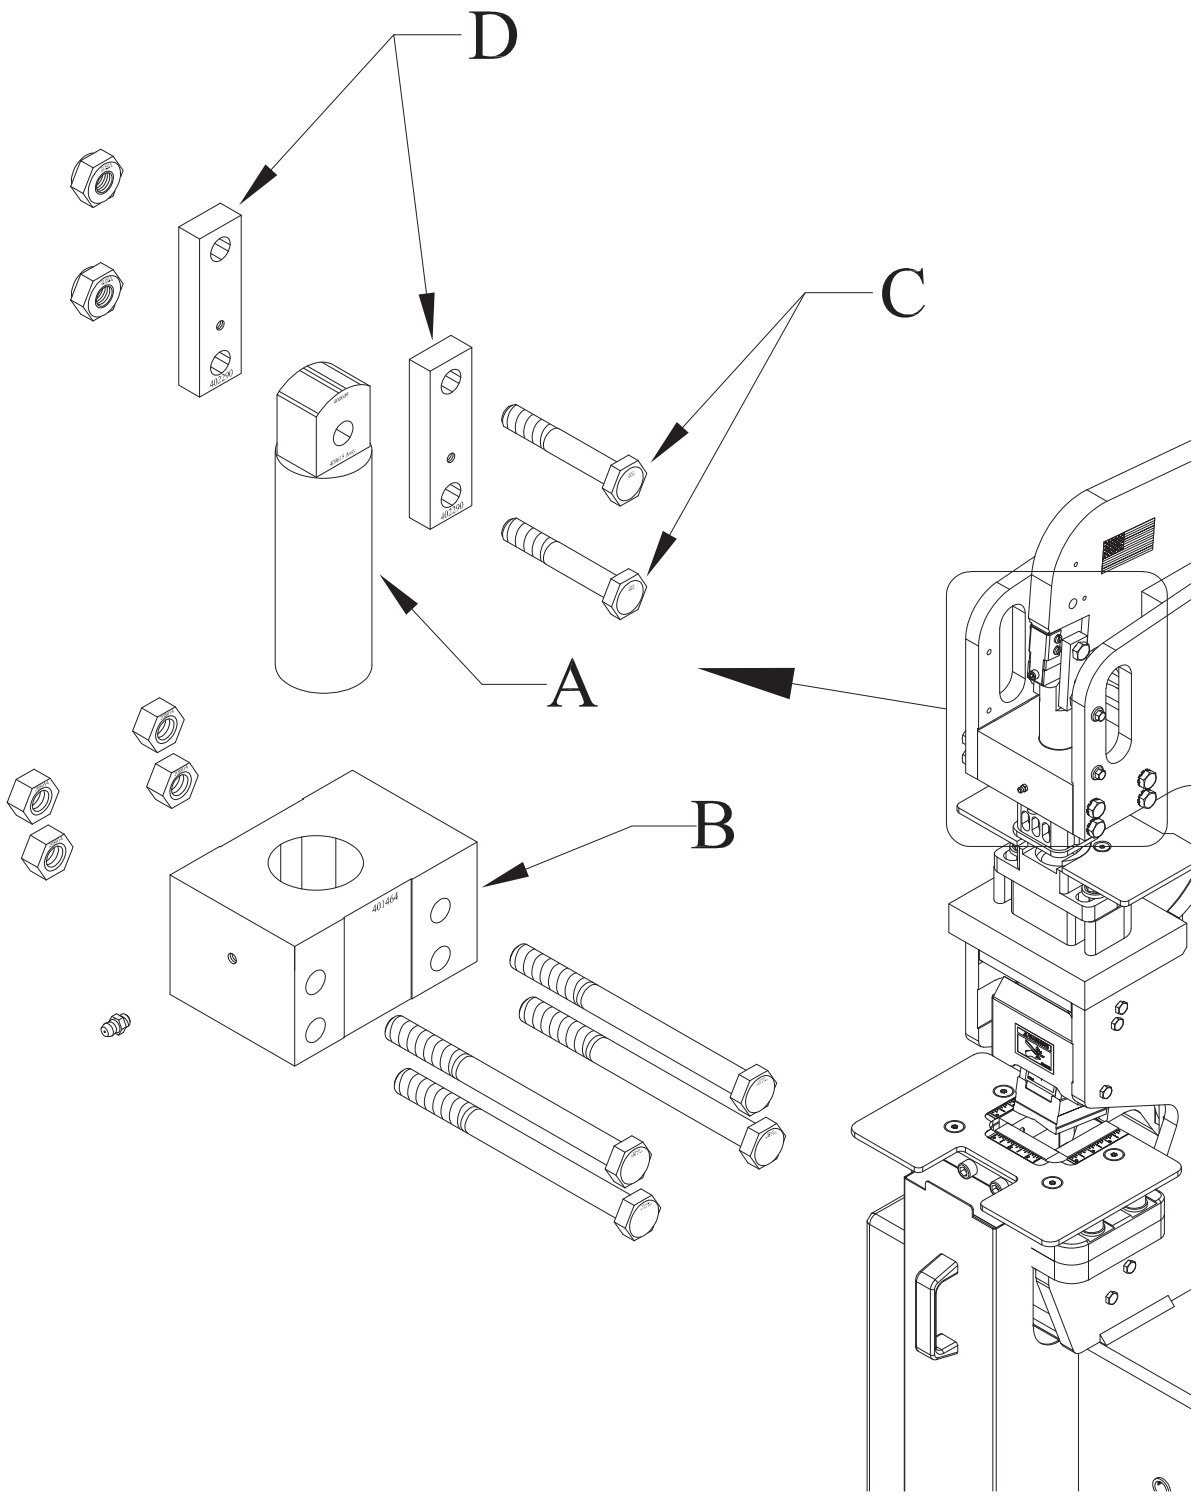

FIGURE 8
A. Check the clearance between the punch barrel (A) and the punch barrel guide (B). FOR PARTS IDENTIFICATION, SEE FIGURE 8 ON THE FOLLOWING PAGE.